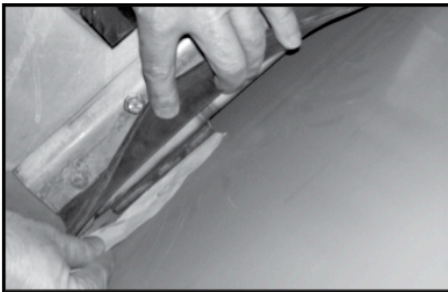

Figure 7A
6. Figures 7A-7B - There must be contact between front pads and main unit. Check for contact by trying to slide paper between pads and main bin. If no contact, adjust MULTIBIN.